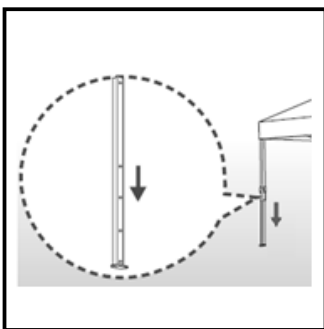

Fig. 10
2. Push inward one of the levers located inside of the legs and release the safety pin from the hole in the leg, and lower the height of the canopy. Repeat for the remaining legs. (*see Fig. 10*)